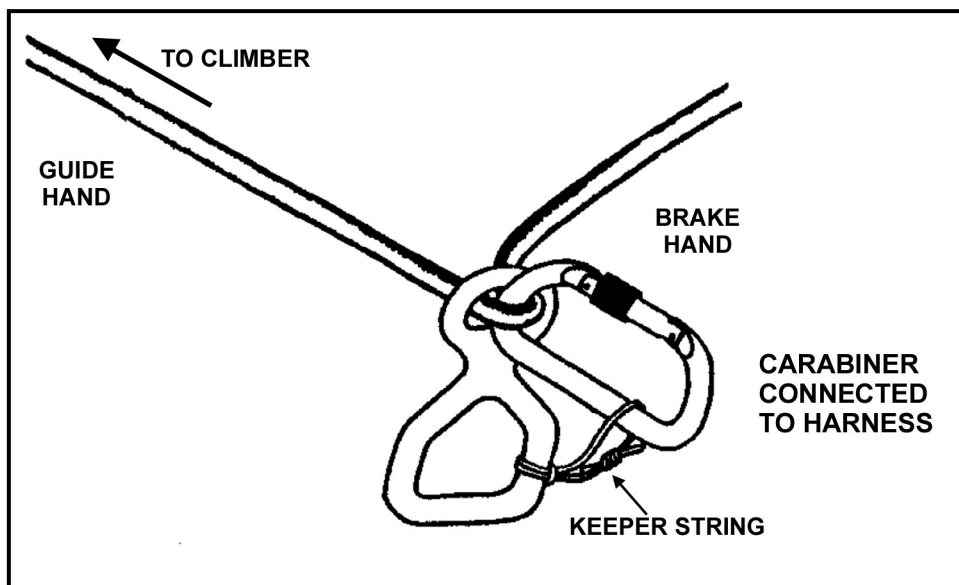

Figure 6-26. Figure-eight device.
(2) **Figure-Eight Device.** The figure-eight device is a versatile piece of equipment and, though developed as a rappel device, has become widely accepted as an effective mechanical belay device (Figure 6-26). The advantage of any mechanical belay is friction required to halt a fall is applied on the rope through the device, rather than around the belayer's body. The device itself provides rope control for upward and downward pulls and excellent friction for halting severe falls. The main principle behind the figure-eight device in belay mode is the friction developing on the rope as it reaches and exceeds the 90-degree angle between the rope entering the device and leaving the device. As a belay device, the figure-eight works well for both belayed climbing and for lowering personnel and equipment on fixed-rope installations.